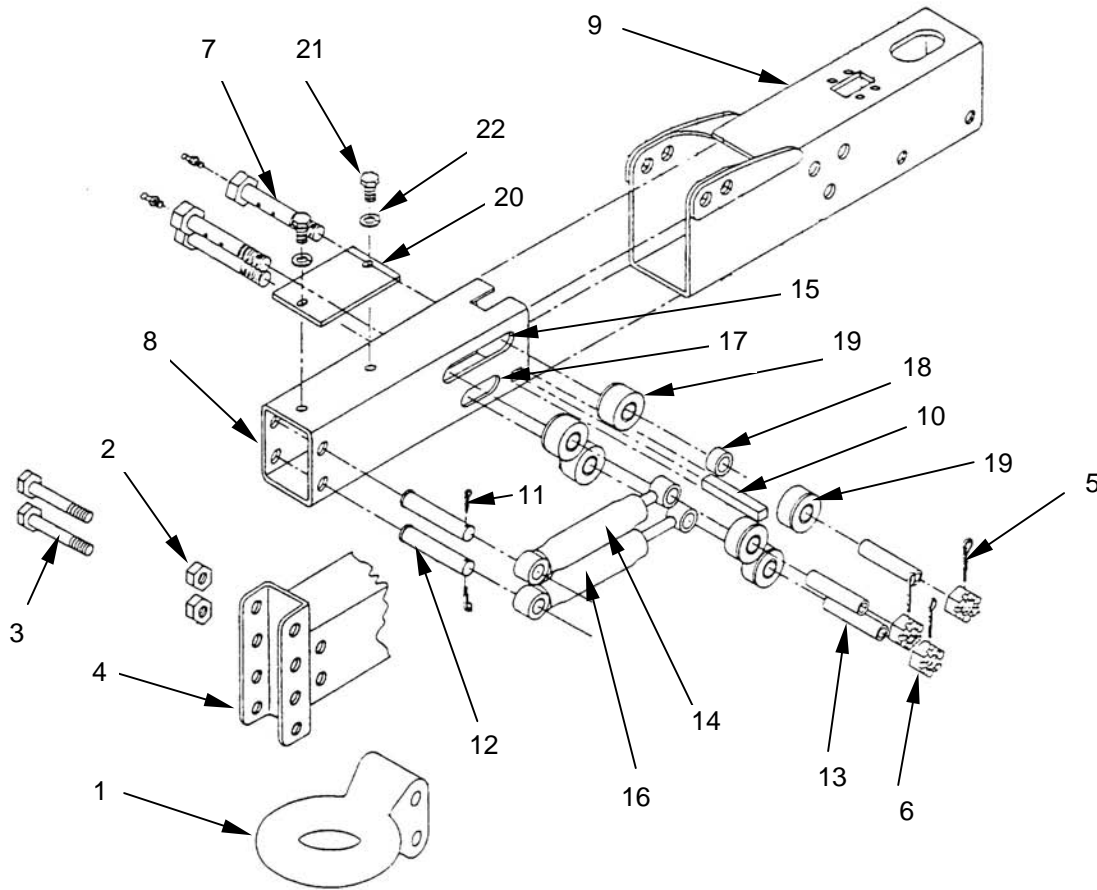

Figure 15. Inner Roller And Dampers
- a. Remove lunette eye (**figure 15, item 1**) mounting nuts (**figure 15, item 2**) and bolts (**figure 15, item 3**).
- b. Remove lunette eye (**figure 15, item 1**) from leveler channel (**figure 15, item 4**).
- c. Remove cotter pins (**figure 15, item 5**) from castle nuts (**figure 15, item 6**).
- d. Loosen and remove castle nuts (**figure 15, item 6**) from roller bolts (**figure 15, item 7**).
- e. Remove roller bolts (**figure 15, item 7**).
- f. Remove inner shell (**figure 15, item 8**) from outer case (**figure 15, item 9**).
- g. Remove push rod block (**figure 15, item 10**) from inner shell (**figure 15, item 8**).
- h. Remove cotter pins (**figure 15, item 11**) from damper pins (**figure 15, item 12**).
- i. Remove spacer tube (**figure 15, item 13**) from upper damper (**figure 15, item 14**) in top slot (**figure 15, item 15**).
- j. Remove spacer tube (**figure 15, item 13**) from lower damper (**figure 15, item 16**) in bottom slot (**figure 15, item 17**).
- k. Remove spacer tube (**figure 15, item 13**) from spacer (**figure 15, item 18**) in top slot.
- l. Remove rear rollers (**figure 15, item 19**) and spacer from inner shell (**figure 15, item 8**).
- m. Remove upper (**figure 15, item 14**) and lower (**figure 15, item 16**) dampers from inner shell.
- n. Loosen and remove centering plate (**figure 15, item 20**) mounting bolts (**figure 15, item 21**) and lockwashers (**figure 15, item 22**).
- o. Remove centering plate (**figure 15, item 20**).